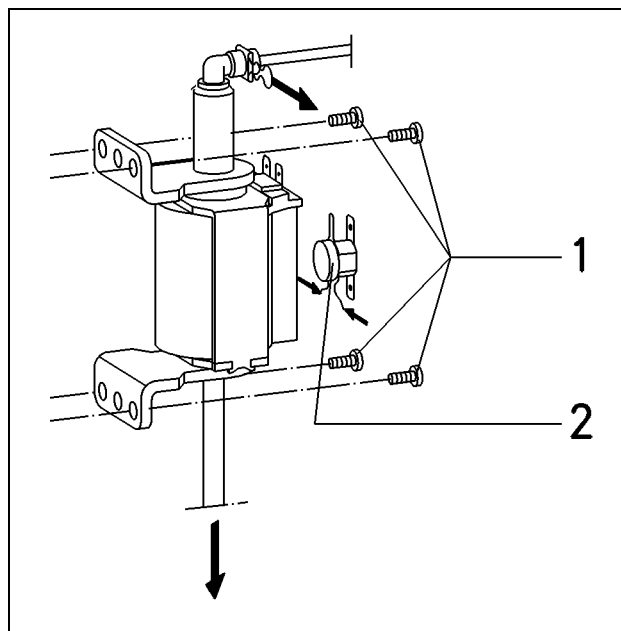

Figure 001-33: Pump Assembly
7. Remove the two T10 screws securing each of the pump's metal mounting brackets (top and bottom). These brackets are not shown in the below illustration but the screw locations are shown at Figure 001-33, Item 1.
9. Disconnect the silicone hose from the bottom of the pump (arrow, Figure 001-33).
10. Disconnect the wiring from the temperature limiter (Figure 001-33, Item 2).
11. Insert small needlenose pliers into one side of the temperature limiter's retaining clip (see arrows at Figure 001-33, Item 2); pull forward to release. Repeat with the other side of the clip.